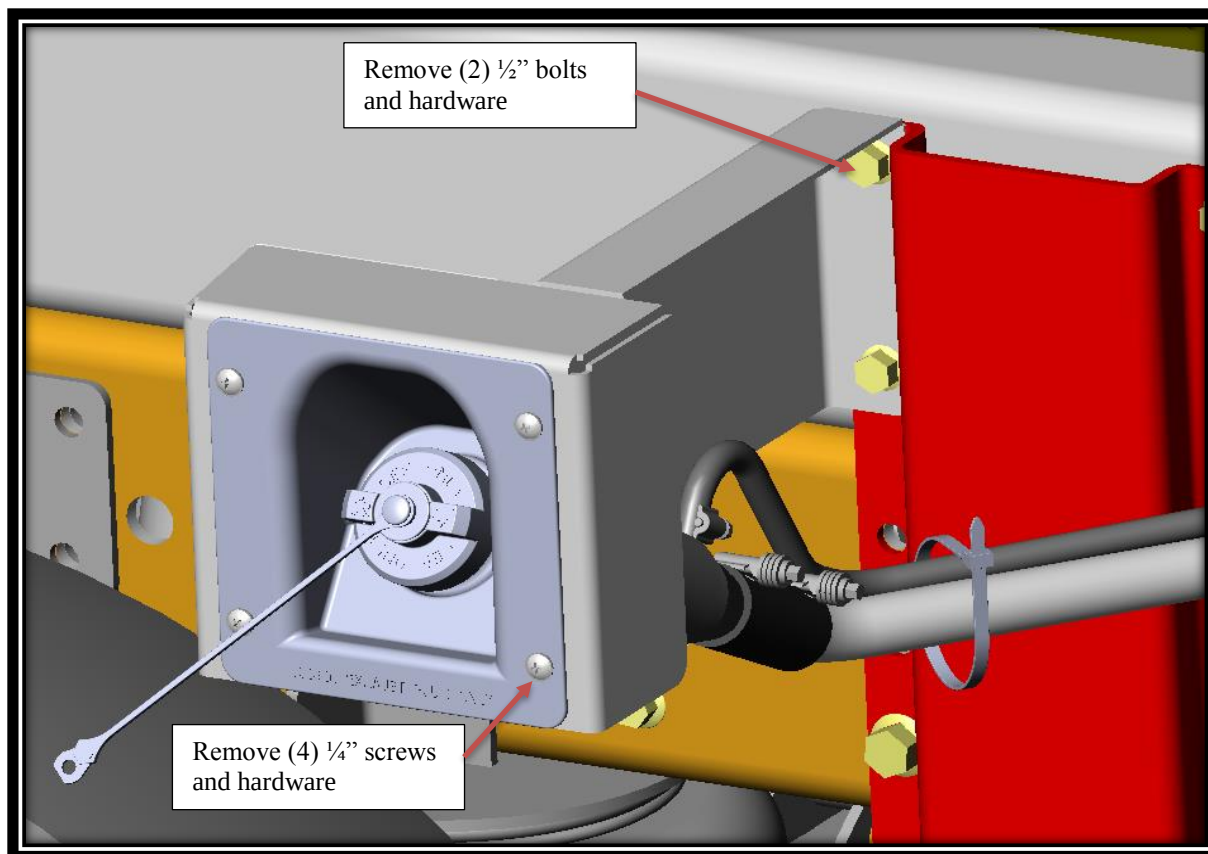

FIG. 4-1
5. Remove (4) ¼" screws and related hardware and retain for reuse. Refer to FIG 4-1.
6. Remove (2) ½" bolts and nuts and retain for reuse. Refer to FIG 4-1.